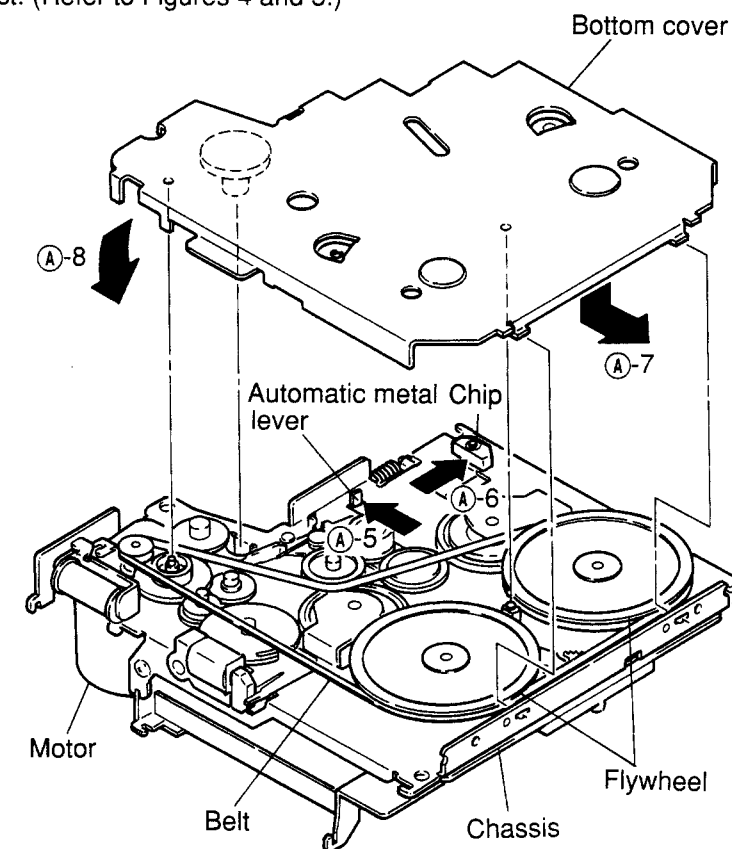

Figure 3
- (9) Turn the mechanism around as shown in Figure 3.
- (10) Pull the automatic metal lever in the direction ⑤-5 and the RF solenoid chip in the direction ⑤-6 as shown in Figure 3.
- (11) Insert the hooks of the bottom cover into the chassis in the direction ⑤-7, and then join the part ⑤-8 of the bottom cover to the chassis slowly, making sure that the 3 points indicated with the straight lines in the Figure 3 are fitted properly.
If there are troubles in mounting the bottom cover, do not apply force but remove the bottom cover once again and check the positions of the individual parts. (Refer to Figure 3.)